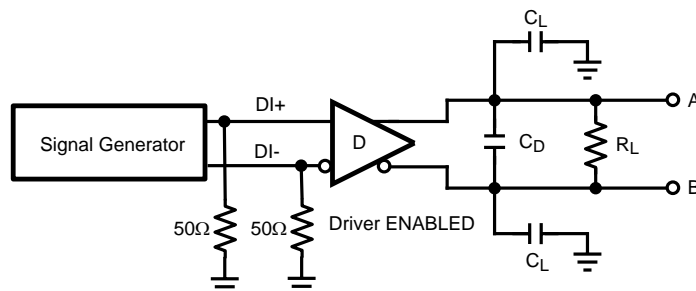
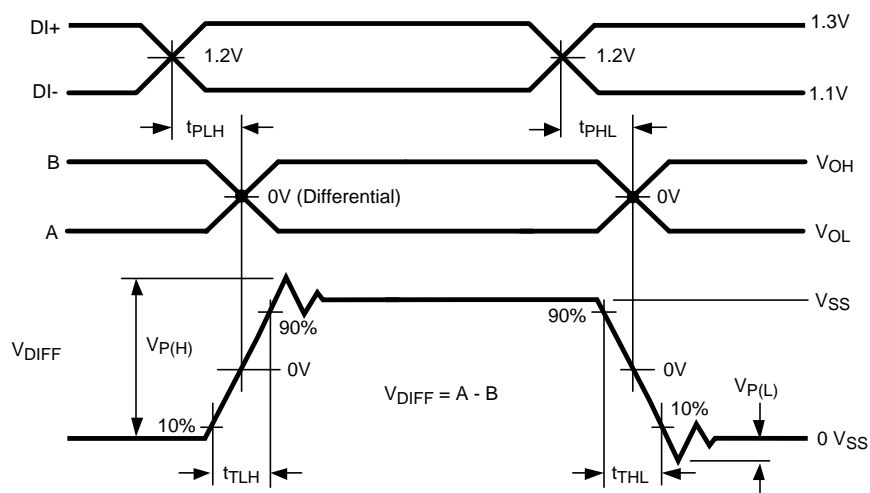

Figure 7. Driver Propagation Delay and Transition Time Test Circuit
Figure 8. Driver Propagation Delays and Transition Time Waveforms
| $V_{P(H)}$                             | Voltage overshoot, low-to-high level output                            | $R_L = 50\Omega, C_L = 5pF, C_D = 0.5pF$See <a href="#">Figure 7</a> and <a href="#">Figure 8</a>(5) |             |     | $1.2V_{SS}$ | V     |
| $t_{SKD1}$ ( $t_{sk(p)}$ )     | Pulse Skew $ t_{PLHD} - t_{PHLD} $ (4) (5) | See <a href="#">Figure 7</a> and <a href="#">Figure 8</a>  |     | 65  | 350 | ps    |